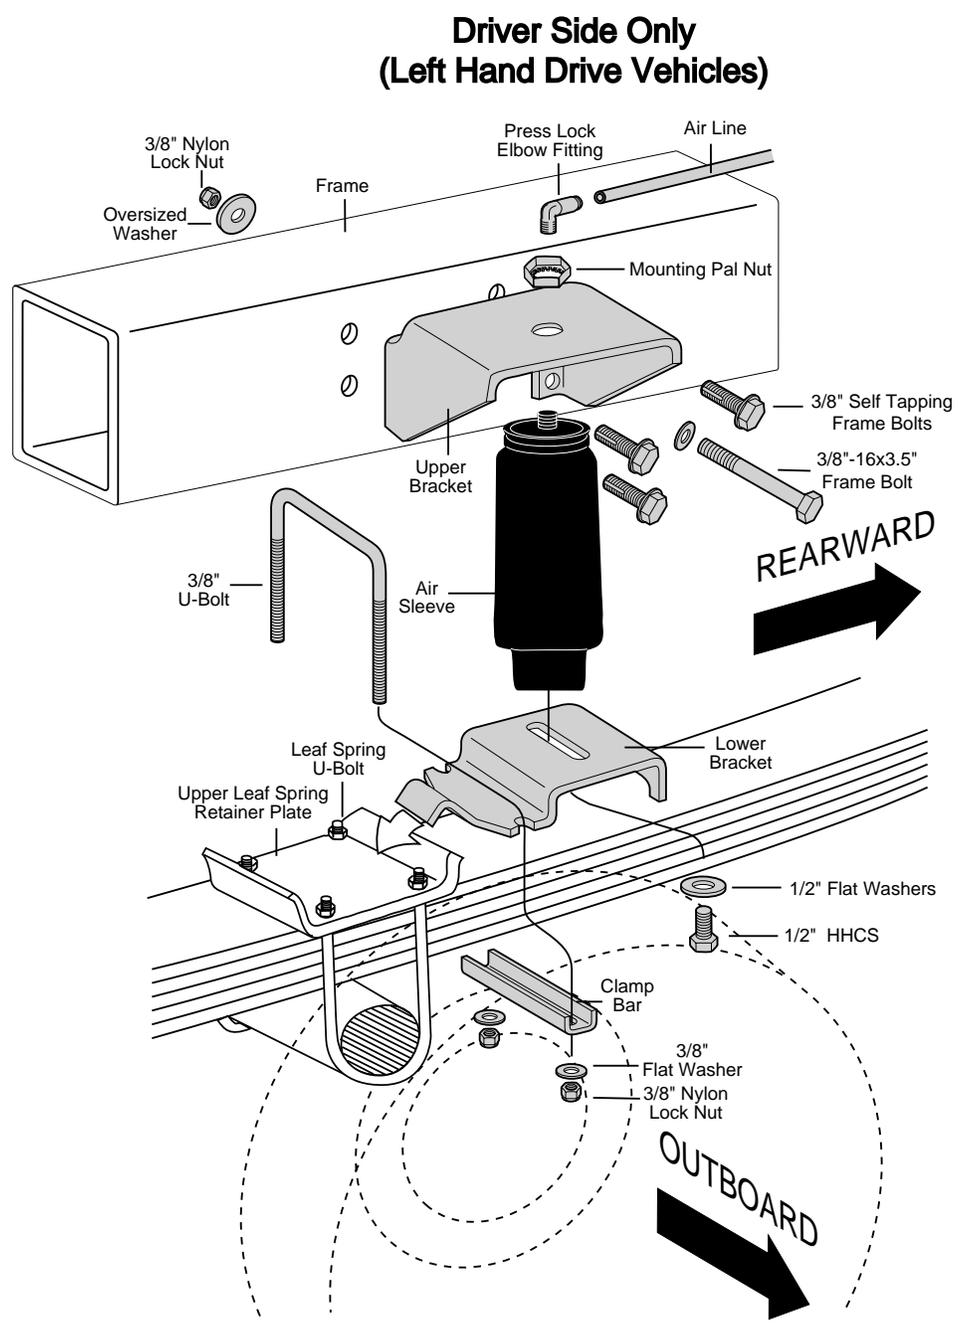

Figure 1
Figure 1 represents a TYPICAL installation. Your vehicle may look slightly different due to make, model or year.
2. LOOSELY attach the lower bracket to the bottom of the sleeve. Using the provided 1/2" flat washer and the 1/2" HHCS bolt as shown in Figure 1.
3. Now attach the lower bracket to the leaf spring as shown in Figure 1. The bracket will locate over the edge of the spring retainer plate (Figure 1). Tighten nuts to 20 ft-lbs on the 3/8 U-bolt.
5. **The driver side (US) will require the use of three 3/8 self tapping frame bolts (Figure 1).** Drill 5/16" holes to install these bolts. The fourth bolt (Lower, rear hole) is a 3/8-16x3.5" frame bolt that will go all the way through the frame attached by a washer and locknut on the other side and tightened to 20 ft-lbs. Drill a 3/8" hole for this bolt (Figure 1).
If the vehicle's headlights are shining into the trees or the vehicle is leaning to one side, then it is not level (fig. 1). Raise the air pressure to correct either of these problems and level the vehicle.